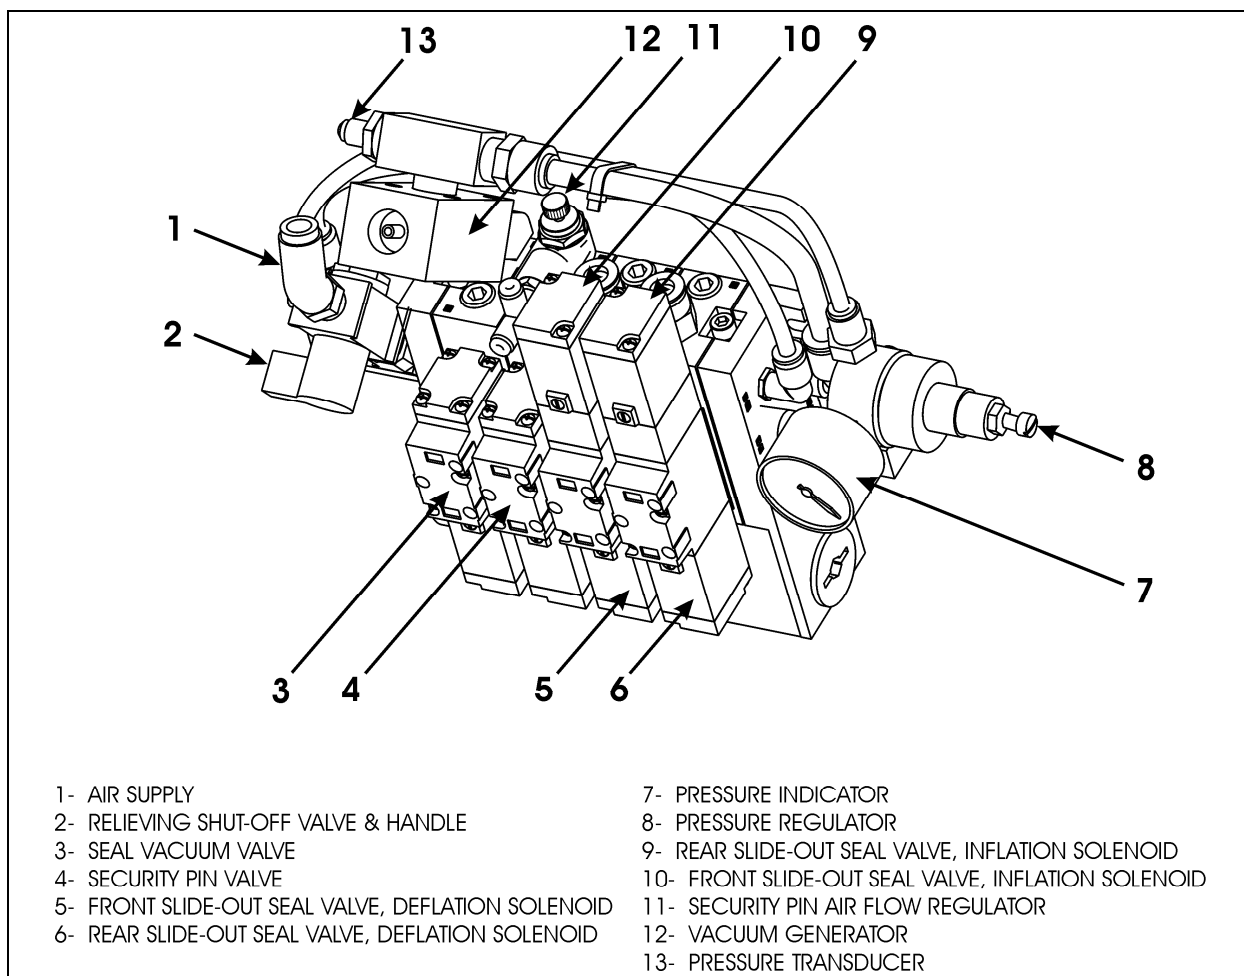

FIGURE 29 : PNEUMATIC COMPONENT PANEL
Make sure the inflatable seal is deflated when manually moving the slide-out during service maintenance. Deflate both inflatable seals completely by turning the relief shut-off valve handle clockwise (see FIGURE 29).
2. Manually deflate the seal completely by turning the relieving shut-off valve clockwise (FIGURE 29). Make sure the pressure indicator reading is "0 psi".